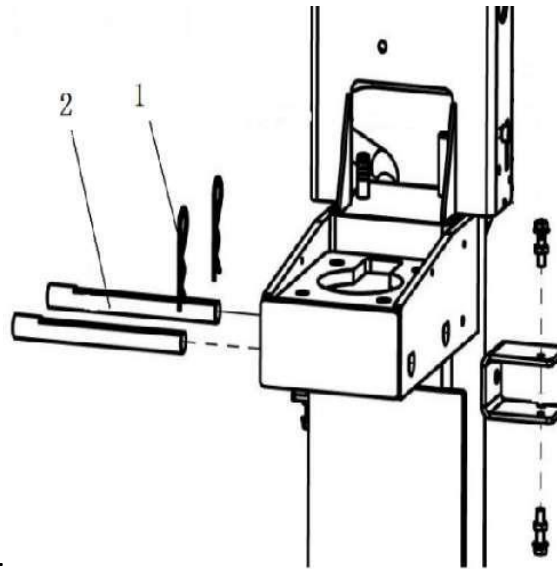

Fig4
Bring the log splitter to working position. Fig.4
**Bring the log splitter to working position. Fig.4**
Press the two operation handles downward, the riving knife begins to work forward, until to the cylinder fixing part, release one operation handle, pull out two R-pins and two shafts (see Fig.4), then operate the two operation handles upward, the cylinder begin to descend, till to the proper position, release two operation handles, stop the machine, and put two shafts、two R-pins into the accessories bag.